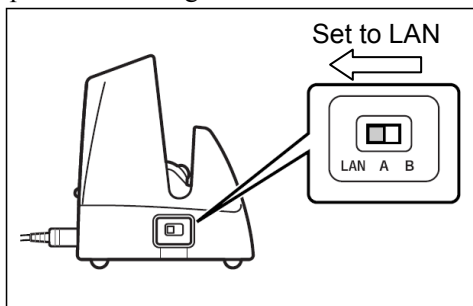

Figure 5.30
4. Make sure the selector switch on the left side of the HA-F62IO Ethernet cradle is set to the "LAN" position. See Figure 5.30 below.